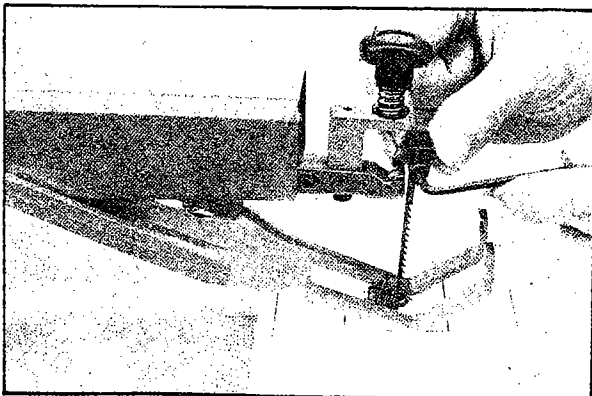
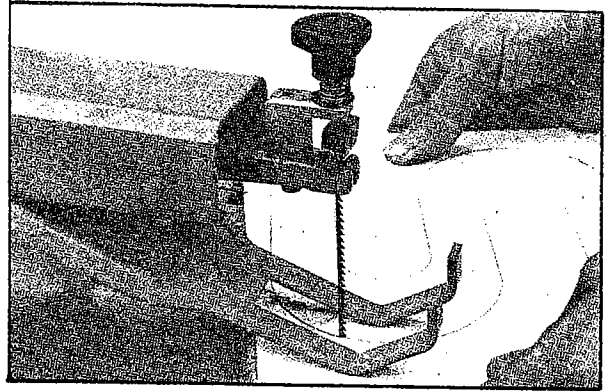

FIGURE 12
FIGURE 14
4. Replace the blade back by sliding it through the drilled hole and table opening. Re-install blade to blade clip and blade holder. Refer to Figure 12 and 13 or Figure 14.